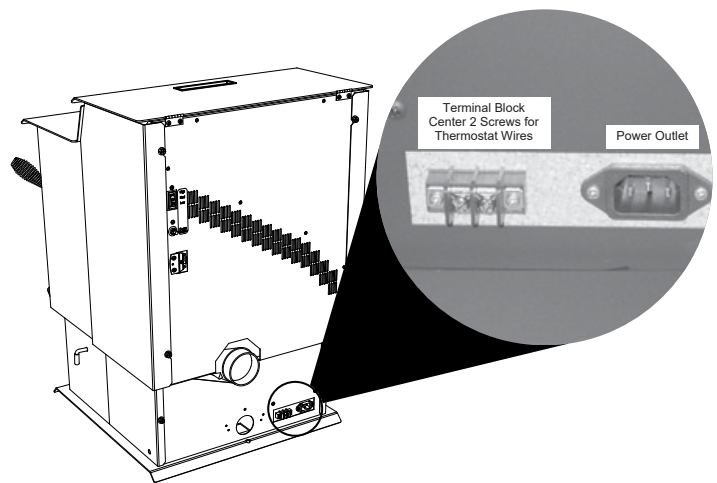

Figure 24.2
- a. There is a four (4) screw terminal block located on the back lower left corner of the stove directly to the side of the power cord inlet. The center two (2) screws are for the thermostat wires; attach thermostat wire to these two screws (**Figure 24.2**).